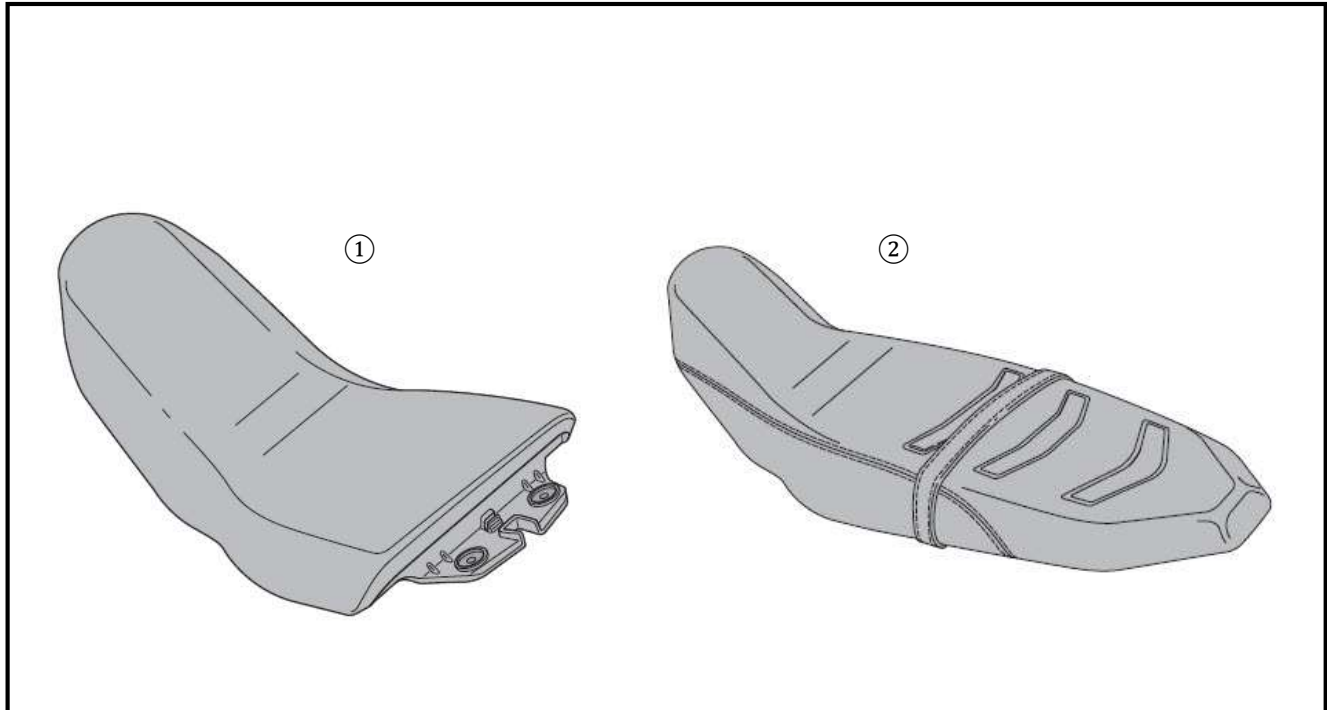

Fig. 1
1. Remove the original passenger and rider seats per the Owner's Manual. Retain the bolts for reuse. (Fig. 1 and 2)
1. Remove the original passenger and rider seats per the Owner's Manual. The hardware is not retained. (Fig. 1 and 2)